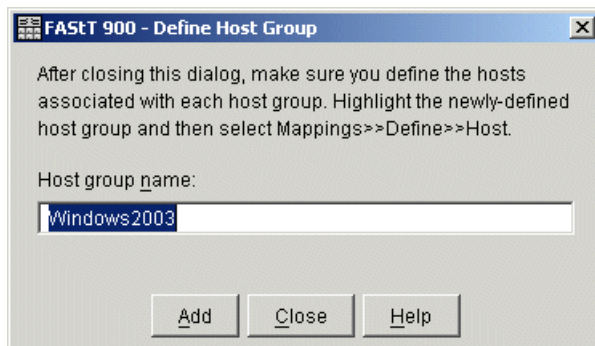

Figure 5-34 Entering the host group name
- The Define Host Group dialog (Figure 5-34) opens. Enter the names of the host groups you need. When you are finished, click **Close** to exit the dialog. Note that if only one server will access the logical disks in a storage partition, then it is not necessary to define a host group because you could use the default host group. However, as requirements are constantly changing, we recommend that you define a host group anyway. Otherwise the addition of new systems is not possible without disrupting the already defined mappings in the default host group.